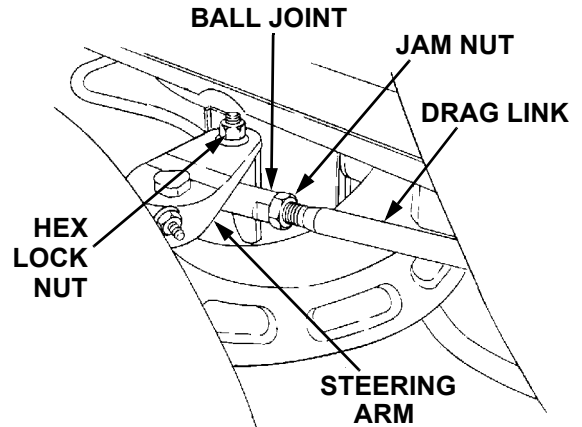

Figure 15
5. Disconnect the front ball joints from the steering arms by removing the hex lock nuts (Refer to Figure 15). Manually move each wheel to achieve the required toe-in *and* equal D measurements.
6. Loosen the jam nuts from the ball joints (See Figure 15).